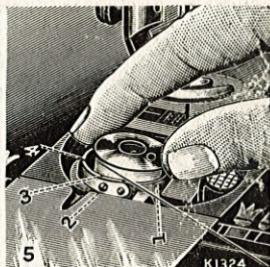
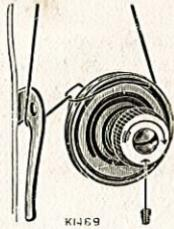

Fig. 6
Fig. 11
Raise the needle and fit the quilter foot, as shewn. To attach the under braider, draw the slide (5, Fig. 6) to the left, and insert the downwardly
The balance wheel must always turn towards you. The presser foot must be raised, except when sewing. Do not work the machine with the bobbin case (1, Fig. 6) and the needle threaded when not sewing. The slide (5, Fig. 6) must be kept closed.
Draw the slide (5, Fig. 6) to the left and press the forefinger of the right hand upon the bobbin ejector, as shewn in Fig. 4; this will raise the bobbin so that it can be easily taken out.
(See Fig. 6.)
Take the bobbin between the thumb and forefinger of the right hand with the end of the thread drawing from the top to the left, and in this position replace it in the bobbin case, as shewn in Fig. 6. With the left hand draw the thread into the slot (3), then back between the spring and side of bobbin case until it reaches the notch (4) across the bobbin towards the needle and close the slide (5).
Raise the needle to its highest point and remove the slide (5, Fig. 6) by raising its front edge.
A correct stitch can usually be obtained by varying the tension on the needle thread (see Fig. 11).—To increase the tension turn the thumb nut in the direction illustrated by the arrow, or to lessen the tension turn the nut in the opposite direction. All machines are correctly adjusted before leaving the factory, and it is therefore seldom necessary to alter the under tension. Should it become necessary to do so, however, tighten the tension spring screw (2, Fig. 6) on the left hand side of the bobbin case to increase the tension or loosen the screw slightly to lessen the tension.